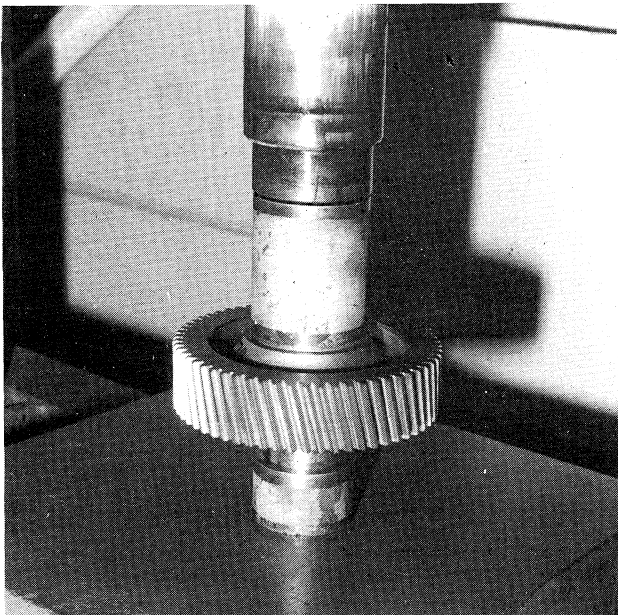
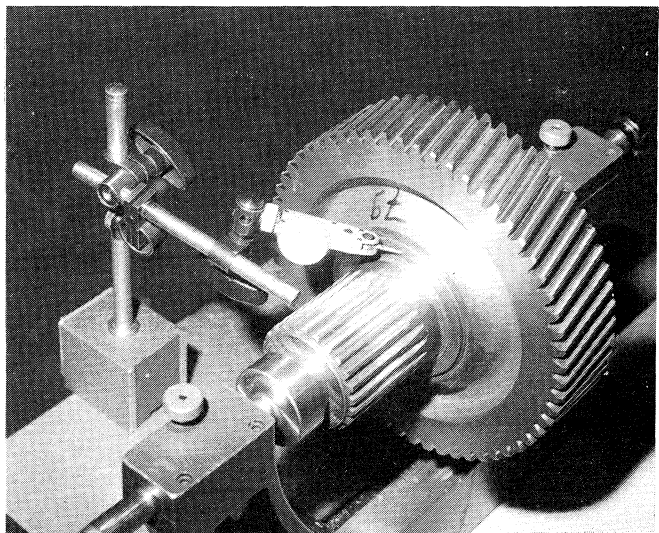

Figure 8-10. Assembly of gear output.
Figure 8-11. Runout check from shaft center.
2. Seat the output gear on shaft using 200-300 lbs. force. Place the output package on an arbor press and using special tool TD-300392 or TD-300392-1, advance the gear flush to within .000-.002 inch of shaft shoulder at small diameter end of taper. See Figure 8-10. A static press force of 30 to 45 tons (approximately) is required to achieve this advance. A nominal advance of .100 inch is expected and .080 inch is the minimum acceptable advance. Perform runout check from shaft centers to gear outer rim face at the small diameter end of the taper, .005 T.I.R. is a maximum acceptable runout. See Figure 8-11.